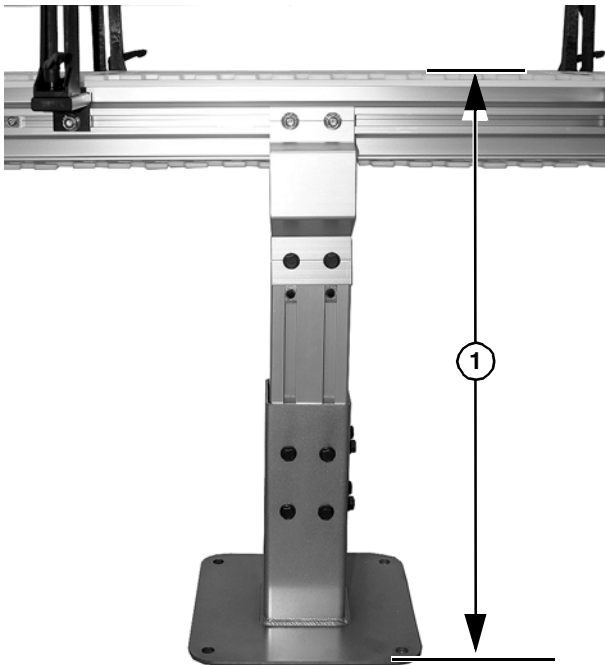

Figure 2
Support post for 4" (105 mm) wide conveyor and a height range of 24" (609 mm) to 28" (711 mm) (**Figure 2, item 1**) mounted horizontal.